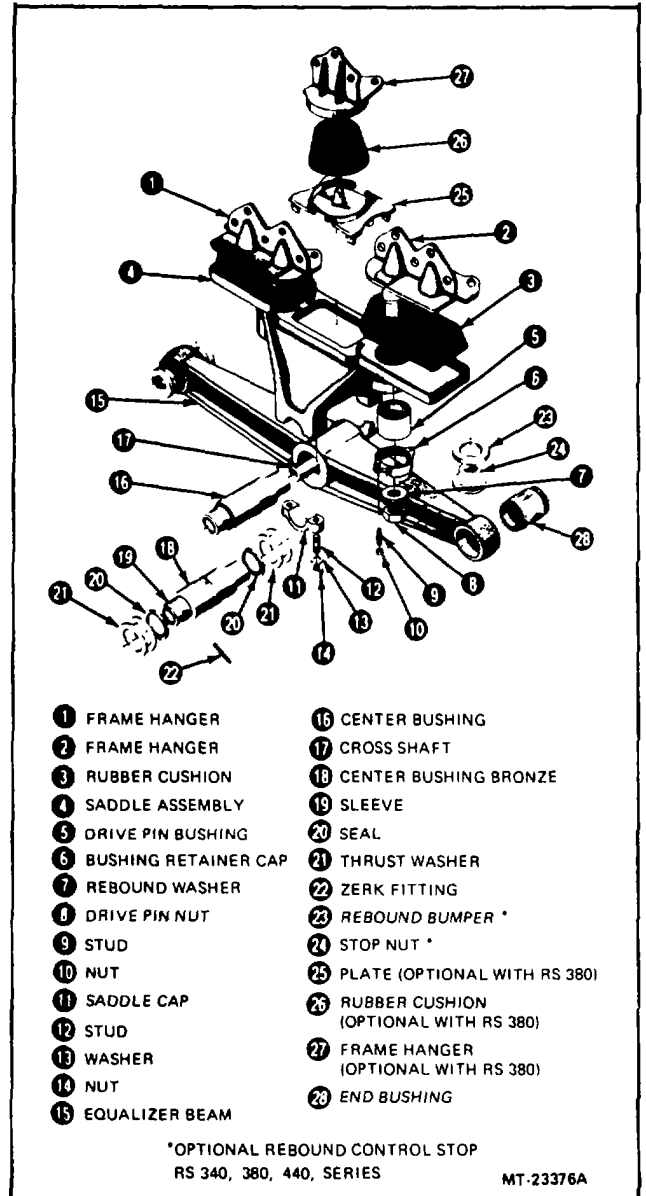

Figure 14 - Leaf Spring Type Suspension
Leaf Spring Type, Figure 14
2. Assemble cross tube and equalizer beams to axle assemblies, Figures 14 and 15.